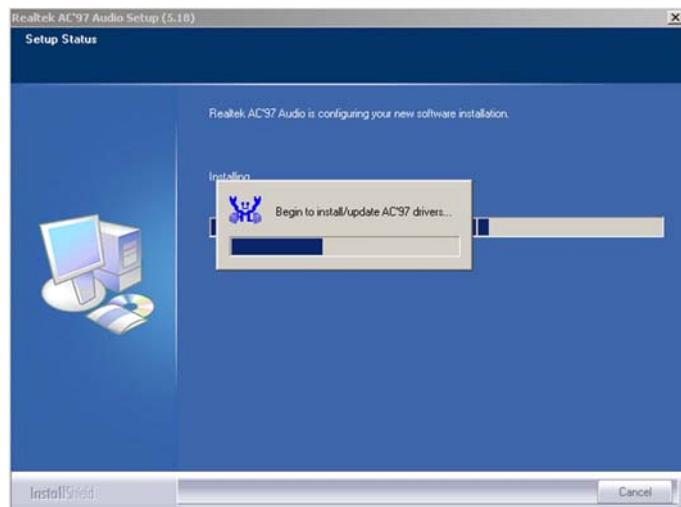

Figure 7-32: AC'97 Audio Driver Installation Begins
Step 8: After clicking the “YES” button in **Figure 7-31**, the installation of the driver begins (**Figure 7-32**).